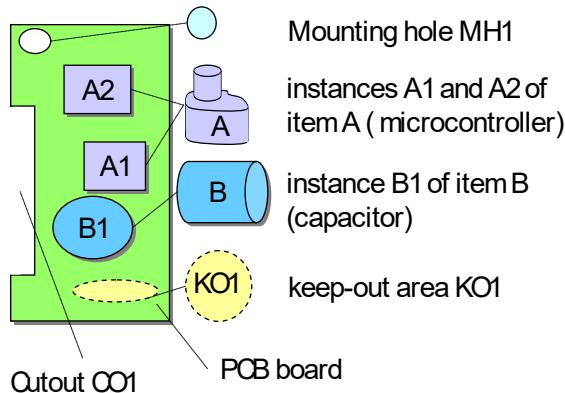

Figure 12: Example PCB board with components and design features
The instantiation of items (and item instances) can be shown based on PCB board with PCB components and design features like mounting holes (see Figure 12). The PCB board contains a mounting hole (MH1), a cut-out (CO1) and a keep-out area (KO1). The following PCB components are placed on the board: two instances (A1, A2) of a microcontroller (item A) and one instance (B1) of a capacitor (B).